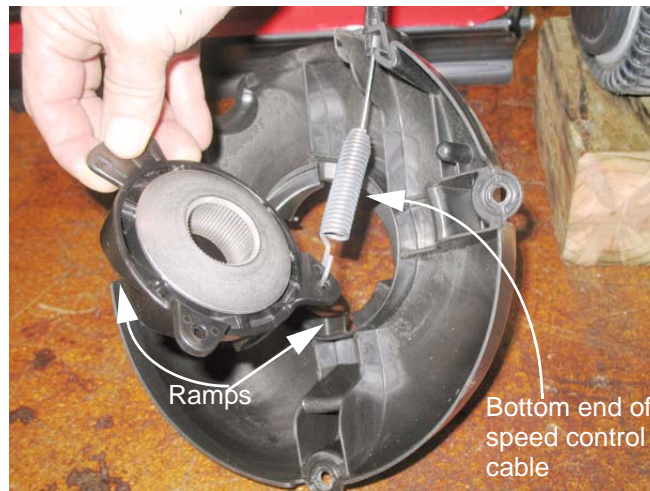

Figure 5.2
2. The cable runs down into the crankshaft pulley cover, where it pulls on an arm that rotates a cam. See Figure 5.2.